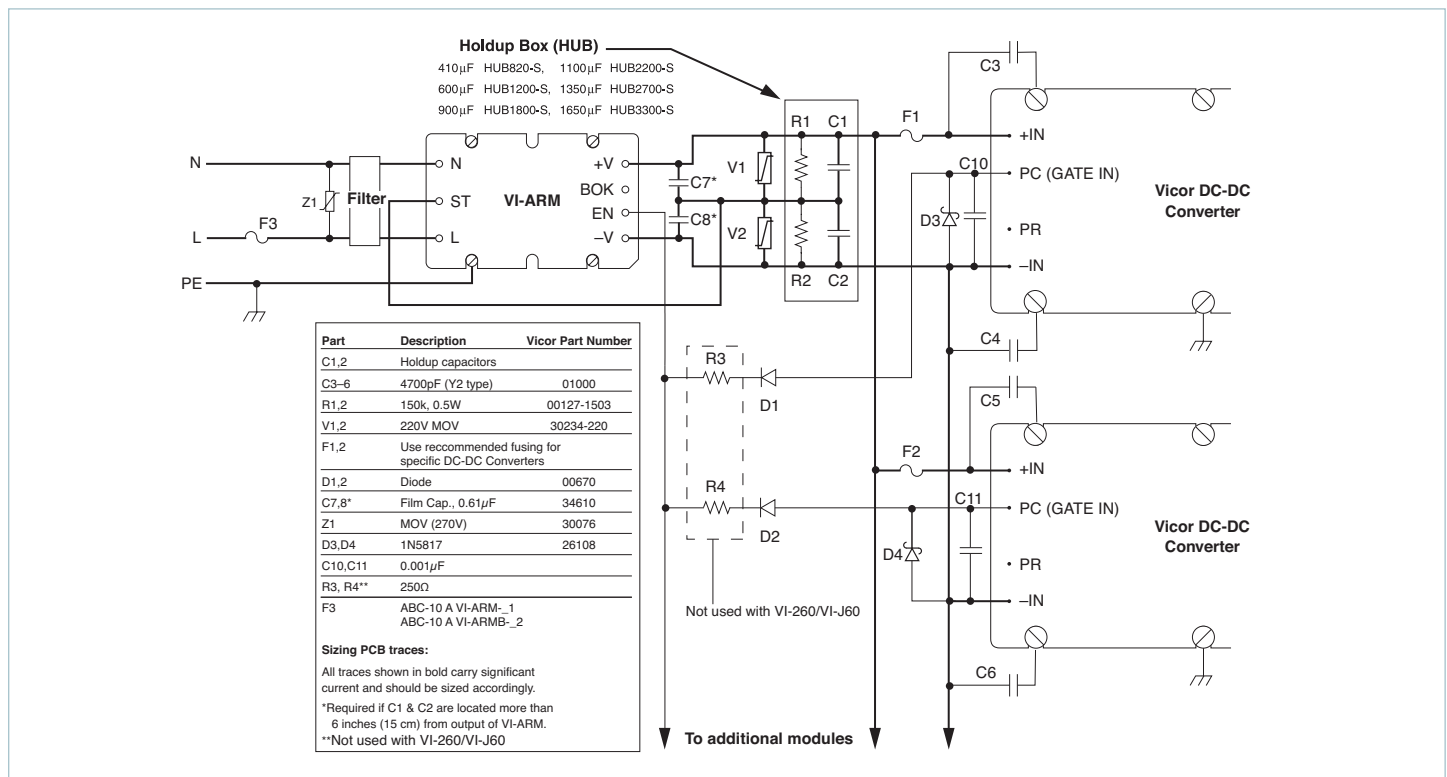

Figure 10 — Converter connections
**Strap (ST) Pin:** In addition to input and output power pin connections, it is necessary to connect the Strap pin to the junction of the series holdup capacitors (C1, C2, Figure 10) for proper (autoranging) operation. Varistors across the capacitors provide input transient protection. The bleeder resistors (R1, R2, Figure 10) discharge the holdup capacitors when power is switched off.
It should be noted that the series combination (C1, C2, Figure 10) requires each capacitor to be twice the calculated value, but the required voltage rating is reduced to 200V.